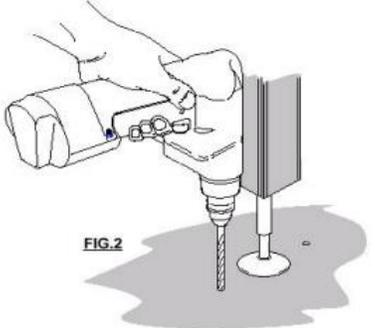

FIG.2
5. Remove the anchor plate from the glide stem and follow instructions from the anchor bolt manufacturer for drilling anchoring holes (**Fig. 2**).